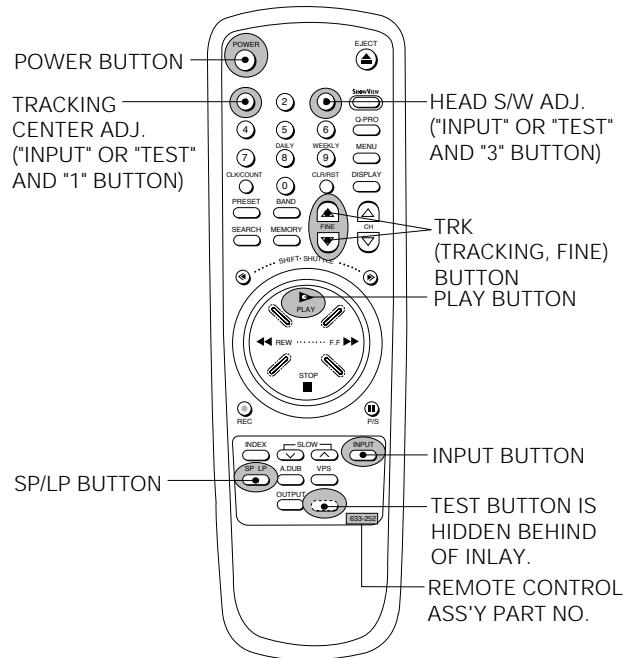
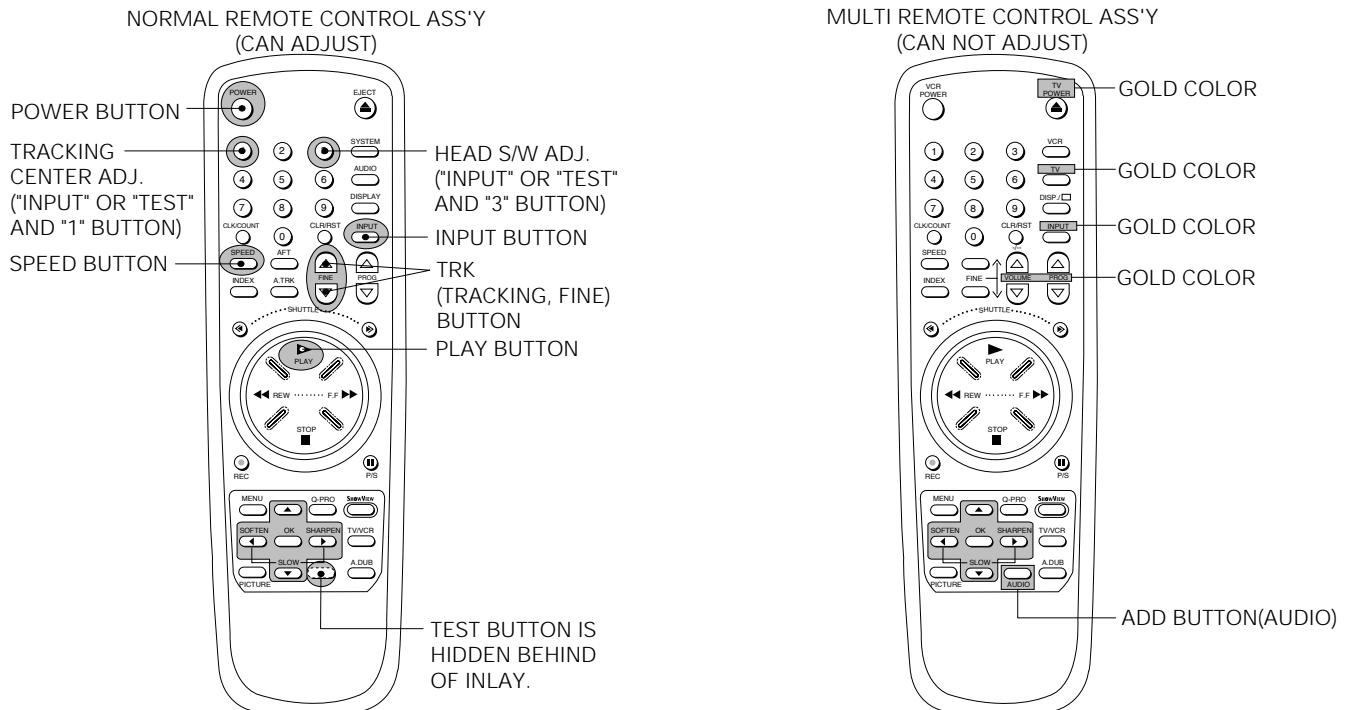

Fig. 5-1 Remote Control Ass'y Jig for X-5/X-6 Chassis (AC93-10039Y/69099-633-252)
Fig. 5-2 Remote Control Ass'y for X-7/X-8 Chassis
1. Remote control ass'y (AC93-10039Y/69099-633-252) is specified as a service jig in the service manual of X-5/X-6(DX5-R/DX5-RC/DX6-R/DX6-RC) chassis. (See Fig. 5-1)
2. Normal remote control ass'y for X-7/X-8 (DX7-R/DX7-RC/DX8-R/DX8-RC) chassis. (See Fig. 5-2)
5-1-2 How to identify between normal remote control ass'y and multi remote control ass'y for X-7/X-8 chassis (See Fig. 5-2)
(See Fig. 5-1 and Fig. 5-2)
2. Press the "TEST" button with the pincers and the precise driver as shown in Fig. 5-1 and 5-2)